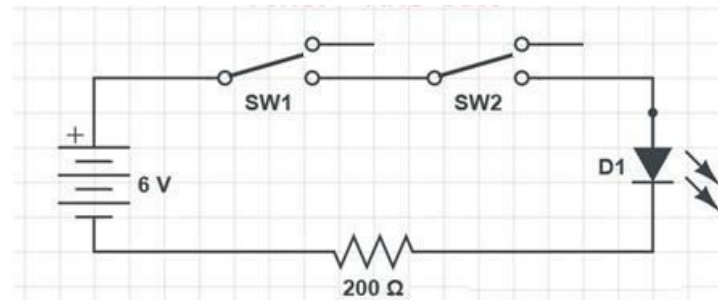

Figure 11: Schematic
- The extreme large green rectangle consists of five set of holes all connected to each other (see Figure 11). As indicated this point is used for supplying the negative terminal of the battery (i.e., black) to the circuit. On top of it, there lies a similar set of holes connected to each other but not connect to holes in green rectangle. That is used for providing the positive terminal of battery (5V in our case) to the circuit.